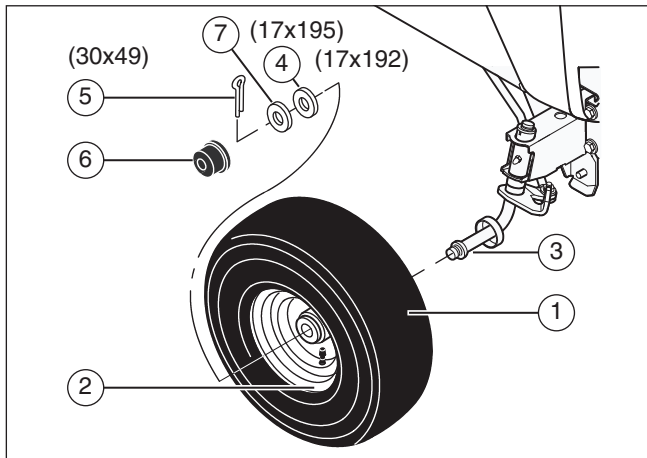

Figure 1
2. Slide the front wheel (1) on the spindle (3) (see **Figure 1**). Install the front wheel so the tire is offset away from the tractor.
3. Fasten each front wheel with washer (4), washer (7), and cotter pin (5). Bend the ends of the cotter pin apart to keep the front wheel on the spindle.
5. If your tractor has hub caps (6), install the hub caps. Make sure the washers hold the hub caps in place.